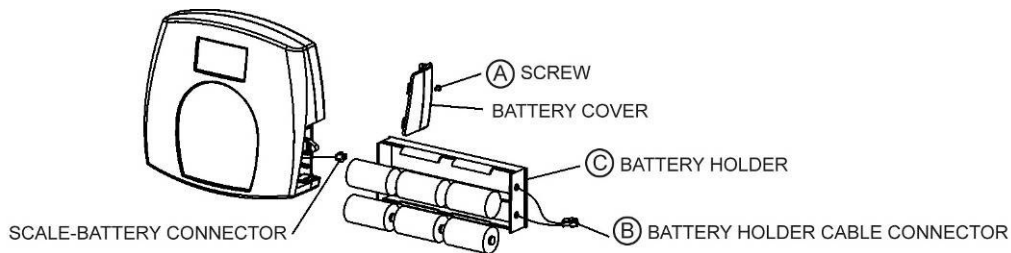

Figure 3 - Batteries
2. Place batteries in the battery holder (see "Batteries" information in Figure 3, below).
2. Remove the battery cover from the display assembly—refer to Figure 3 (A) above.
3. Disconnect battery holder cable connector from the scale-battery connector (B).
4. Carefully remove the battery holder (C) by sliding it out of the display assembly.
6. Carefully slide the battery holder (C) into the display assembly.
7. Plug the battery holder cable connector to the scale-battery connector (B).
8. Attach the battery cover to the display assembly and install the screw (A).